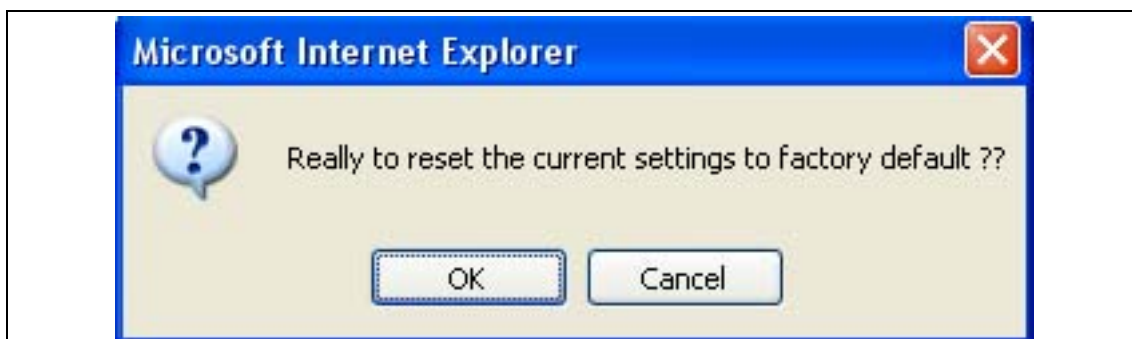

Fig 5-17
1. Click on the “**Reset to Default**”. A warning dialog box appears. (Fig 5-17)